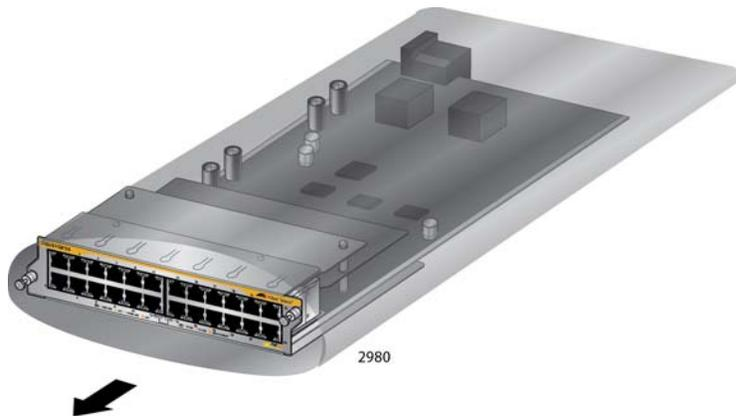

Figure 86. Removing an Ethernet Line Card from the Anti-static Bag
4. Carefully remove the Ethernet line card from the anti-static bag. Refer to Figure 86.